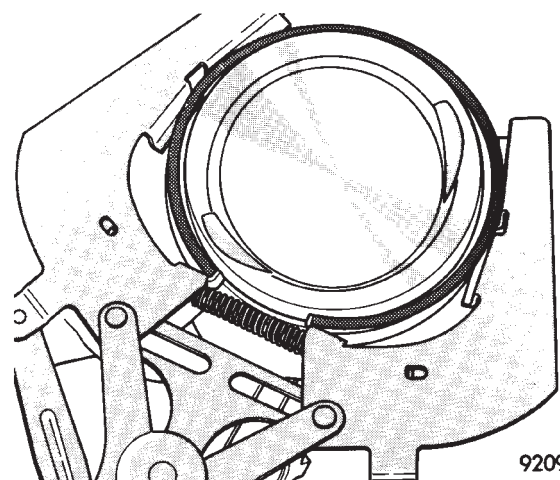

Fig. 4 Remove Piston Rings
(3) Remove piston rings (Fig. 4).